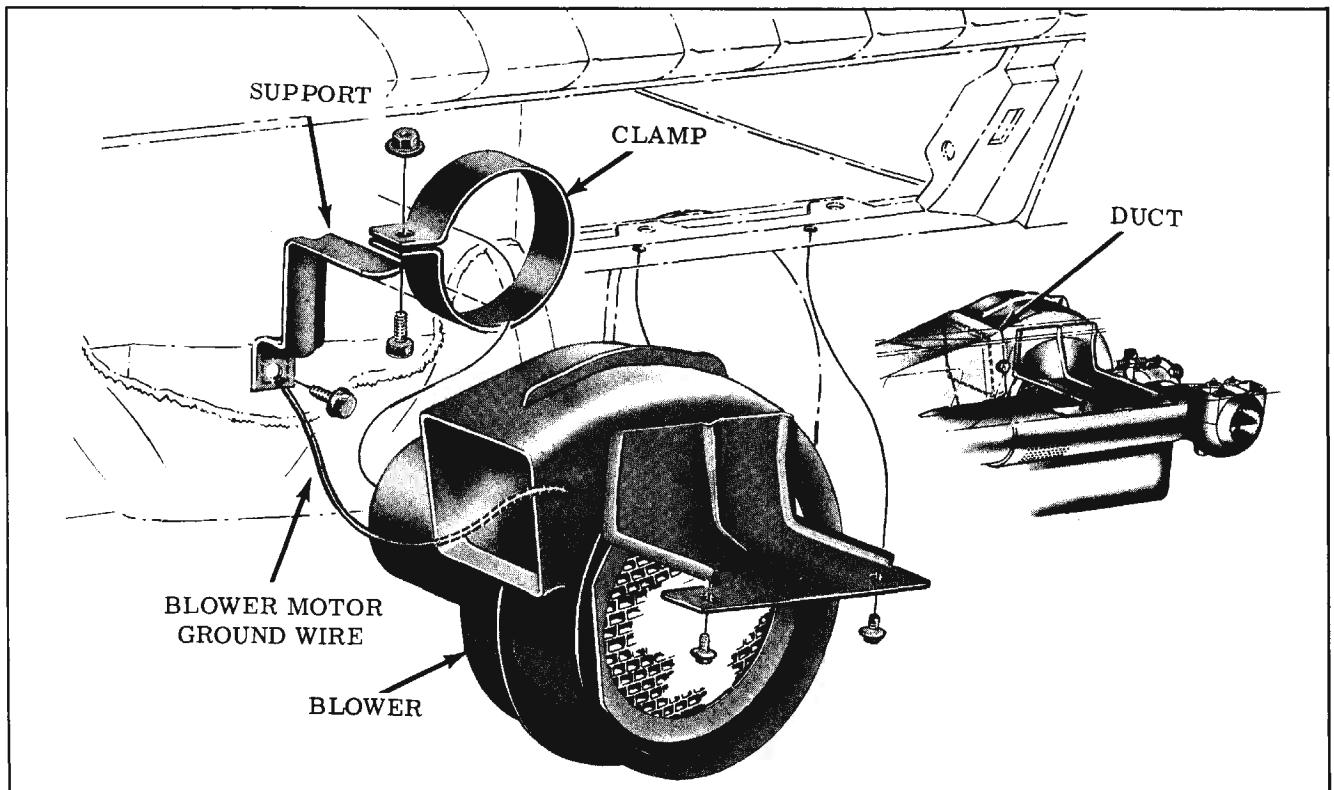

Fig. 15-125 Blower Assembly
3. Disconnect blower 12 volt lead wire from blower connector. (Fig. 15-125)
1. Position blower and duct assembly to evaporator assembly, instrument panel and toe-pan. (Fig. 15-125)
3. Install blower lower bracket to toe-pan attaching screw, sandwiching ground wire between toe-pan and bracket. (Fig. 15-125)